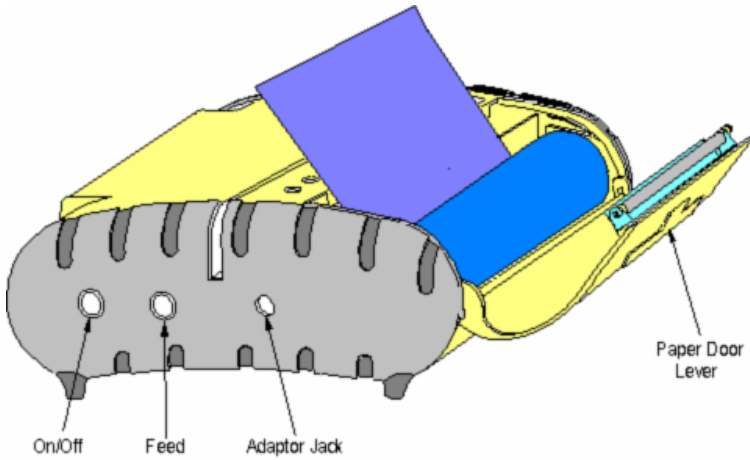

Figure 3:
- Place the paper supply roll into the paper supply well. Make sure the paper supply unwinds from the bottom as shown in Figure 3